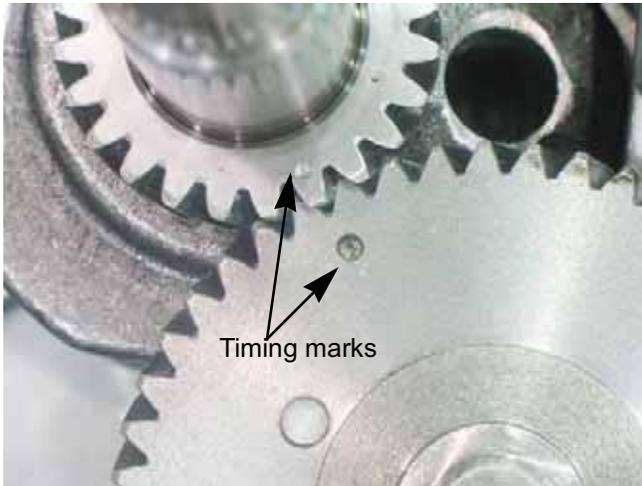

Figure 10.23
- 6c. Insert the cam shaft while aligning the timing marks. See Figure 10.23.